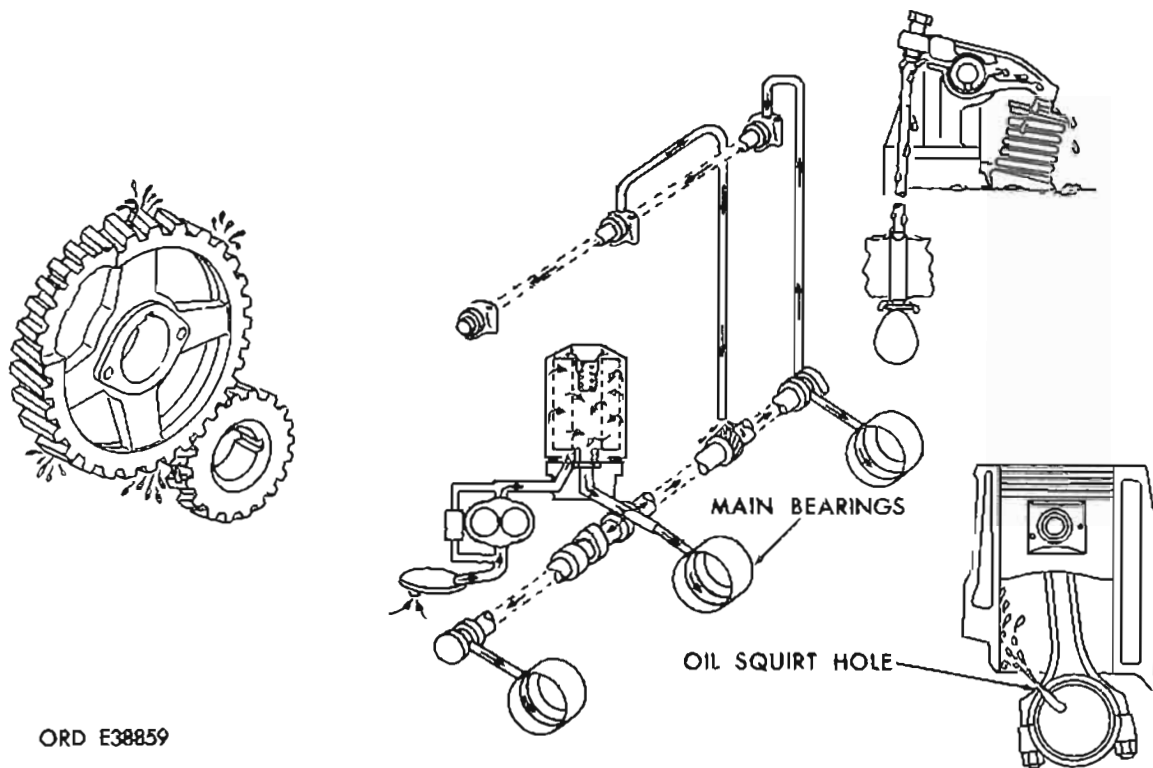

Figure 4-6. Engine lubricating system—oil flow diagram.
c. Lubrication System. Positive full-pressure lubrication (fig. 4-6) is provided by a gear type oil pump driven off the camshaft. A spring-loaded relief valve in the pump controls pressure in the system. Oil relieved by the valve is directed back to the intake side of the pump. The oil is picked up from the oil pan sump through a screened inlet and is pumped through a short drilled passage in the cylinder block to the full-flow-type filter. The filter has an integral relief valve. The filter relief valve permits oil to bypass the filter element if it becomes clogged, thereby maintaining an adequate emergency supply of oil to the engine at all times. An antidrain-back diaphragm prevents a reverse flow of oil when the engine is stopped. From the filter, the oil flows to the crankshaft center main bearing and through the center cam bearing into